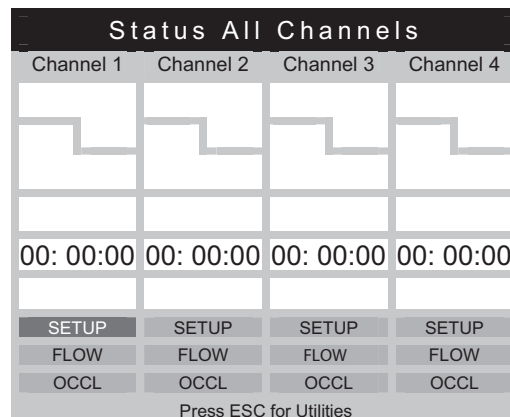

Figure 3. Status All Channels
1. Push the power switch. If the Status All Channels screen in Figure 3 shows without errors, the Product is ready to use.